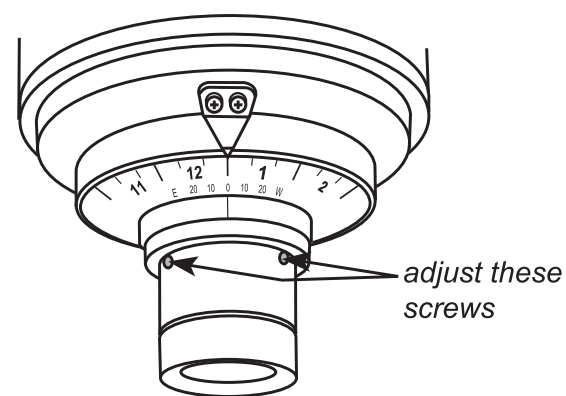
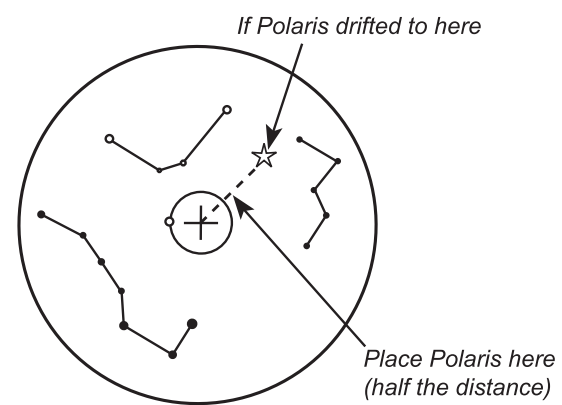

Fig. 2.5b
Fig. 2.5c
4. If the object deviates from the reticle, then use a 1.5mm Allen wrench to adjust the three small Allen screws on the polar scope (Fig. 2.5b) to eliminate the deviation to HALF. (Fig. 2.5c)